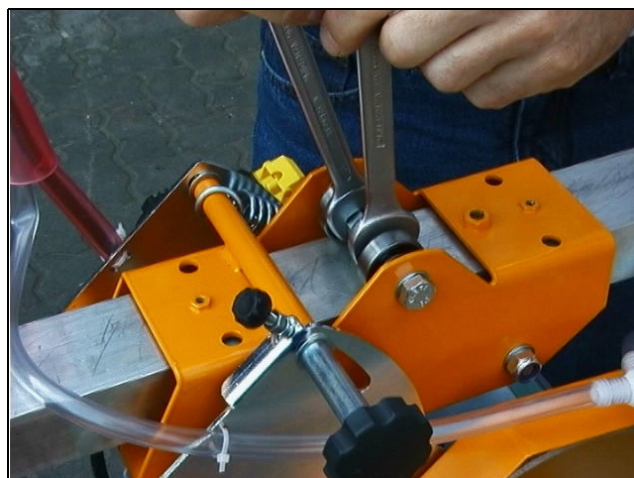

Fig. 5.9 Eccentric twisted
3. Turn the eccentric with the 2 WS 17 spanners until the guide carriage runs without play (Fig. 5.9)! To do that, move the guide carriage (the swivel cutting head) to -and- fro and check also if the 4 bearings underneath run without play on the guide rail (Fig. 5.6)!